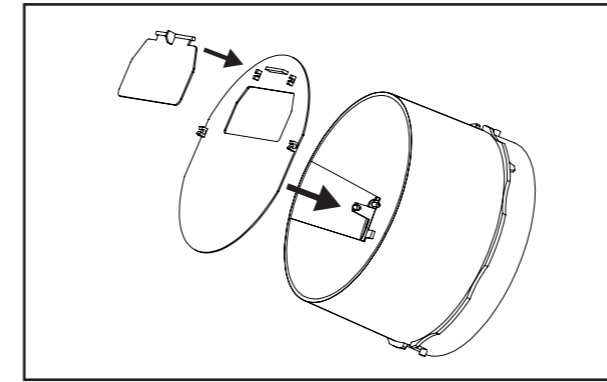

Fig 8.
1. Install the backdraft flaps into the removable duct outlet (Fig. 8)